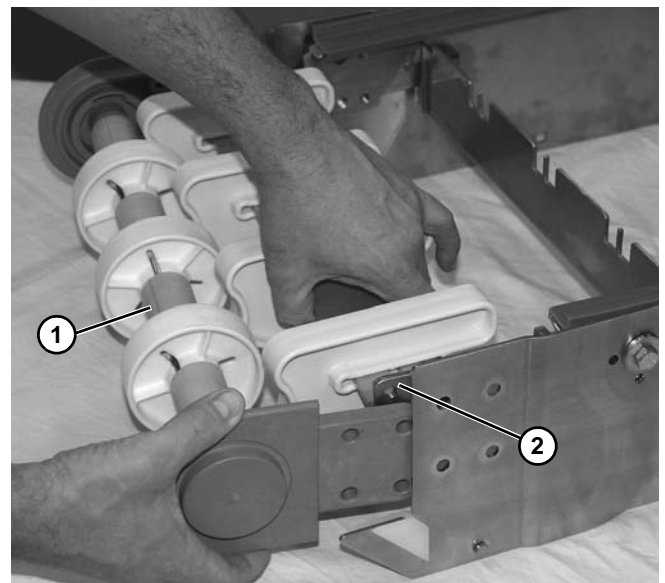

Figure 53
3. Slide the idler spindle assembly (**Figure 53, item 1**) off the pivot tail blocks (**Figure 53, item 2**).